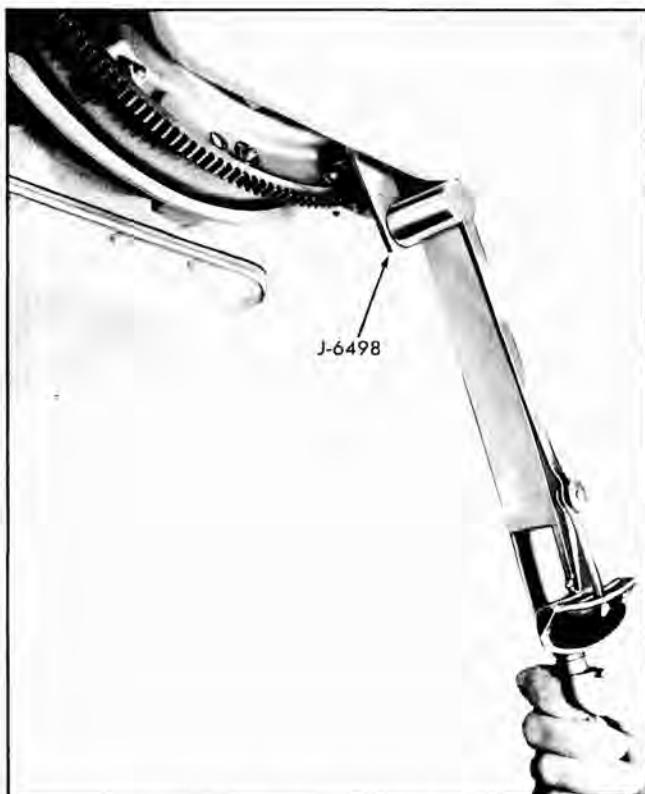

Fig. 179 Using Torque Wrench Extension J-6498
10. Install nuts which retain flex plate to flywheel and torus cover and tighten to 15 lb. ft. torque using torque wrench with extension J-6498 (Fig 179).